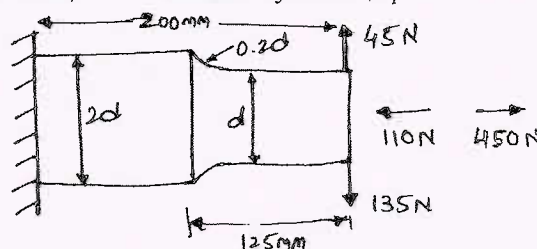

Fig.Q4
- 4 A steel cantilever member shown in Fig.Q4 is subjected to a transverse load at its end that varies from  $45 \text{ N}$  (up) to  $135 \text{ N}$  (down) and axial load varies from  $110 \text{ N}$  (compression) to  $450 \text{ N}$  (tension). Determine the required diameter at the change of section for infinite life using a factor of safety 2. The strength properties of the material are  $\sigma_u = 550 \text{ MPa}$ ,  $\sigma_y = 470 \text{ MPa}$ ,  $\sigma_c = 275 \text{ MPa}$ , notch sensitivity index,  $q = 1$ .